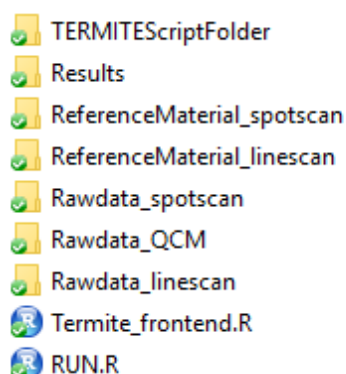

Figure 1: Structure of the directories, which must be created by the user if not existing.
- Prepare, if not existing, additional folders in the main directory as shown in Figure 1.